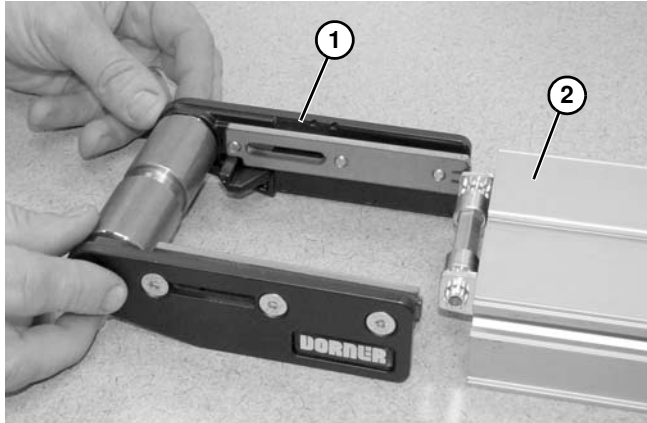

Figure 87
2. Remove idler tail (**Figure 87, item 1**) by sliding off of the conveyor (**Figure 87, item 2**).